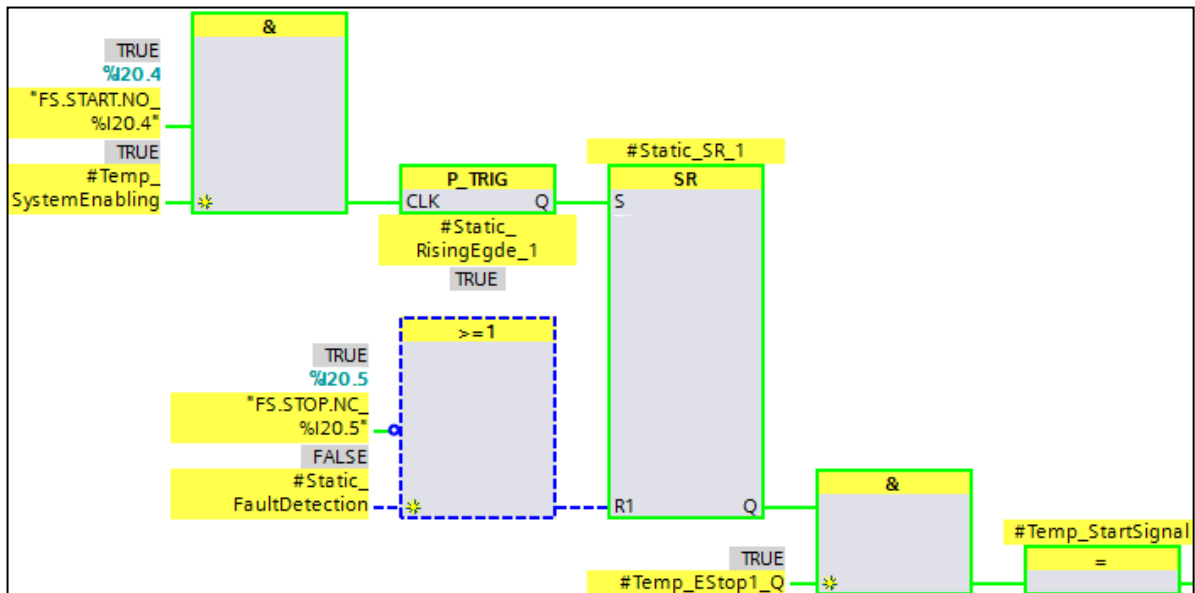

Figure 101: TIA – F-program » Start signal (FS.START.NO_%I20.4)
- ▶ After the reset, the application is back in **"Good state"** (see Figure 101 [book 62]), i.e. the enable 'Q' ('#Temp_EStop1_Q') from the emergency stop block 'ESTOP1' is now set and the actuator can be switched on again ('FS.PNOZp.Q1_%Q40.0' / Network 5).
- ▶ The safety program is then in "**Good state**" again (see Figure 101 [book 62] / above outgoing event messages), so the actuator could be switched back on.